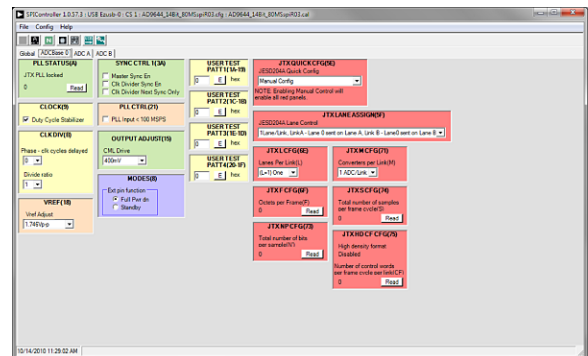
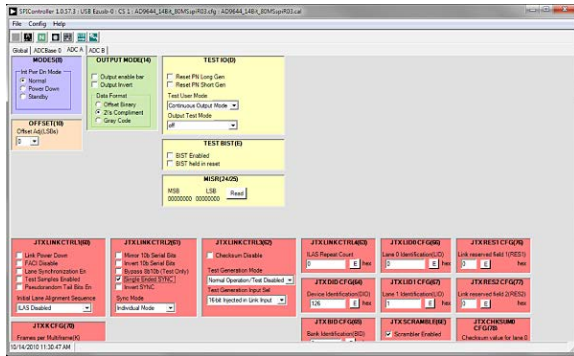

Figure 11. SPI Controller, CLKDIV(B) Box
Figure 12. SPI Controller, Example ADC A Tab
3. In the **ADCBase 0** tab of the **SPIController** window, find the **CLKDIV(B)** box (see Figure 11). If using the clock divider, use the drop-down box to select the correct clock divide ratio, if necessary. See the AD9644 or AD9641 data sheet; the AN-878 Application Note, High Speed ADC SPI Control Software; and the AN-877 Application Note, Interfacing to High Speed ADCs via SPI, for additional information.
5. Note that other settings can be changed on the **ADCBase 0** tab (see Figure 11) and the **ADC A** and **ADC B** tabs (see Figure 12) to set up the part in the desired mode. The **ADCBase 0** tab settings affect the entire part, whereas the settings on the **ADC A** and **ADC B** tabs affect the selected channel only. Note that for the AD9641, only the **ADCBase 0** and **ADC A** tabs are available because the device is a single-channel ADC. See the AD9644 or AD9641 data sheet; the AN-878 Application Note, High Speed ADC SPI Control Software; and the AN-877 Application Note, Interfacing to High Speed ADCs via SPI, for additional information on the available settings.
6. Set the single-ended **SYNC** check box in the **JTX LINK CTRL2** box on both the **ADC A** and **ADC B** tabs (or on only the **ADC A** tab for the AD9641) as shown in Figure 12. This sets the JESD input syncs to operate in singled-ended CMOS mode for compatibility with the FPGA configuration.